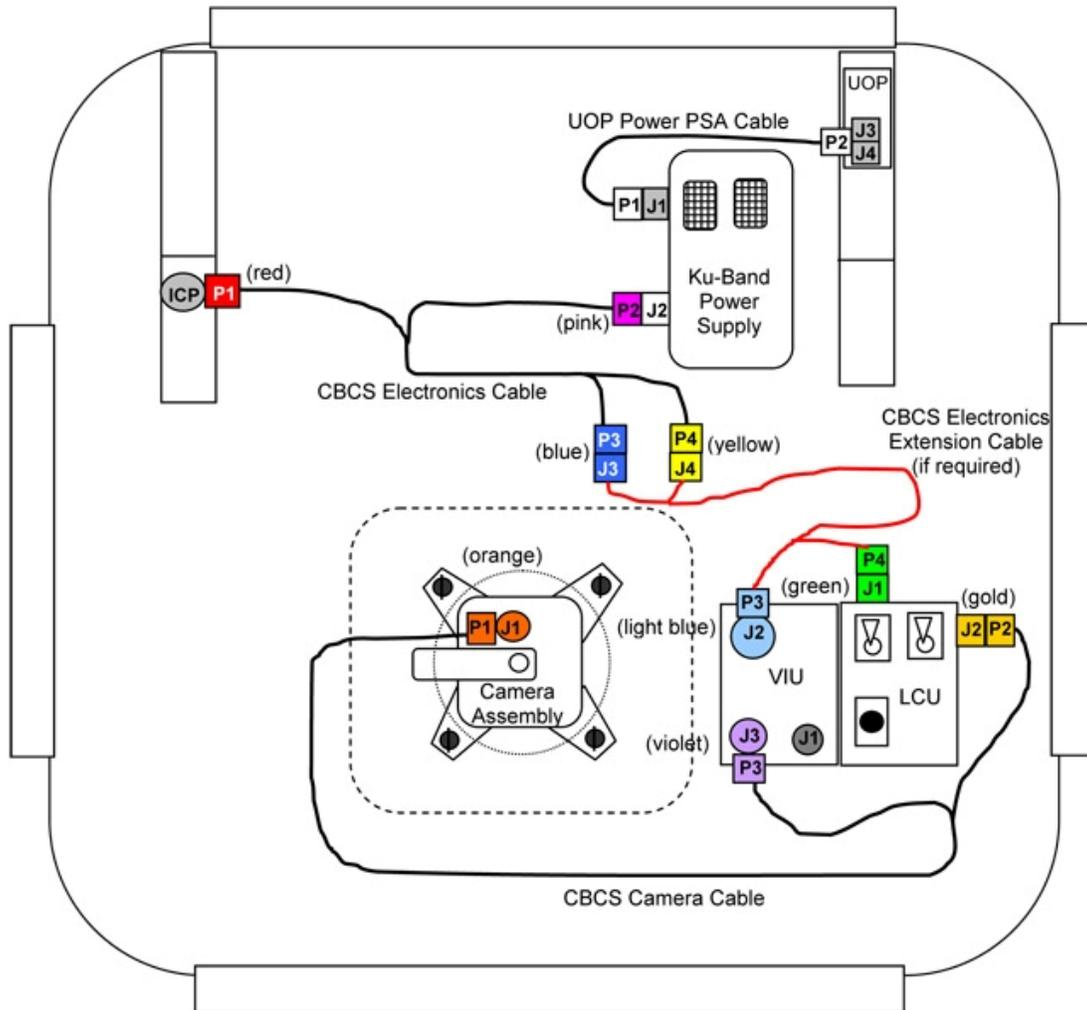

Figure 1.- Example CBCS Installation Diagram.
Figure 1 shows an example CBCS installation. Hatch, Camera orientation, use of the CBCS Electronics Extension Cable, ICP, and UOP will vary for each CBCS use.
Refer to Figure 1.
8.1 √All CBCS cables mated per Figure 1